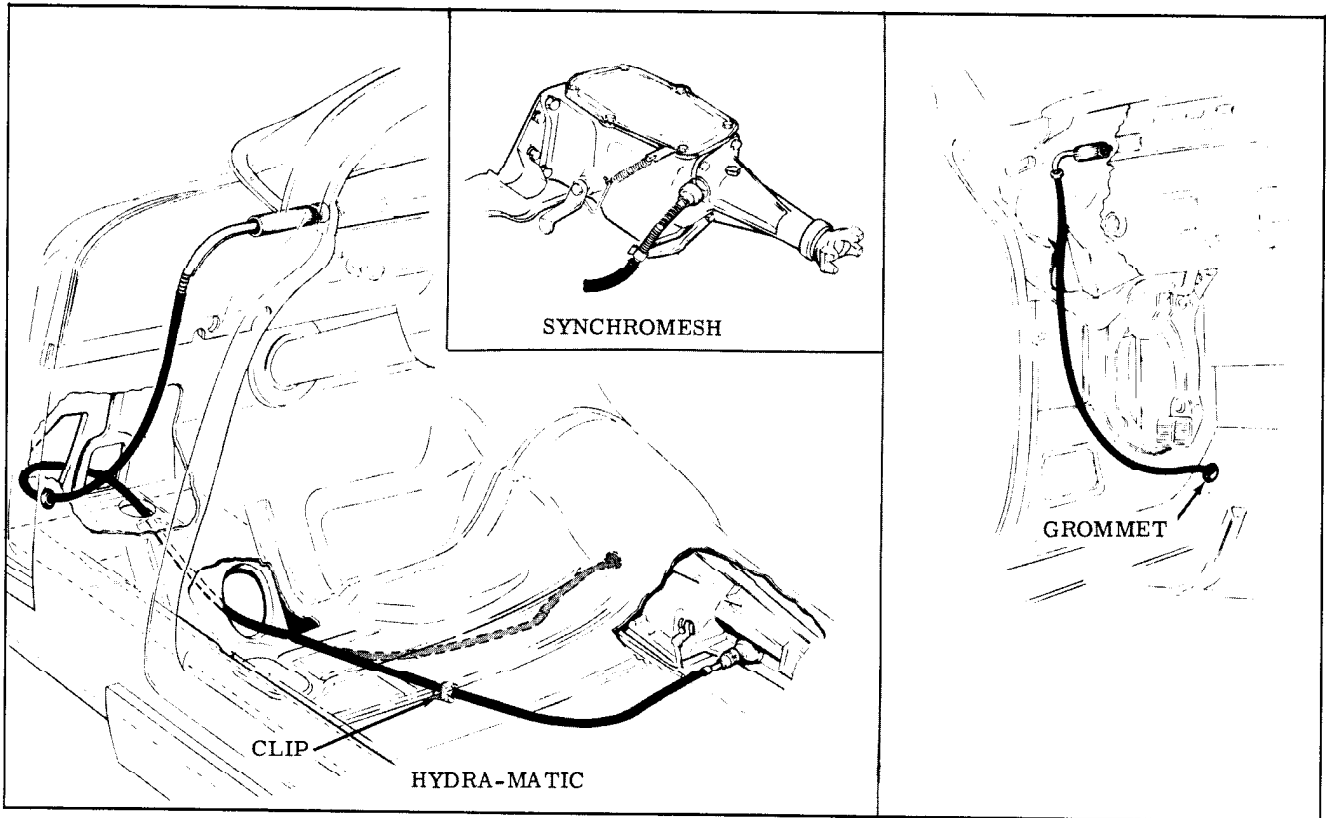

Fig. 15-5 Speedometer Cable Routing
4. Remove cable from car. (Refer to Fig. 15-5 for routing and cable clip locations)